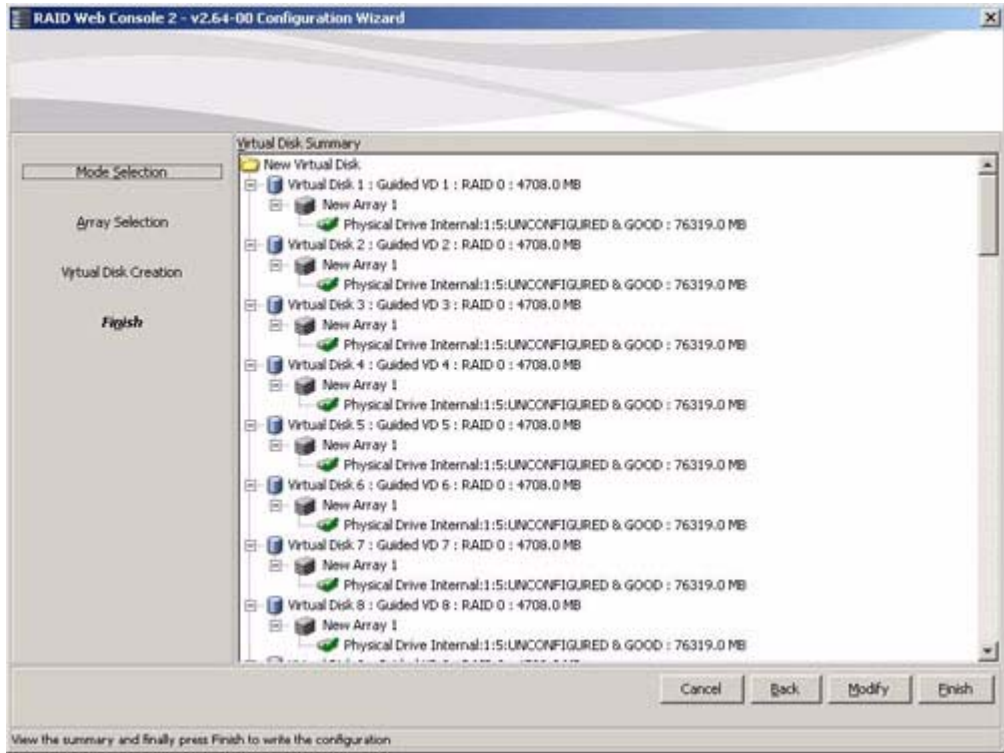

Figure 51. Final Guided Configuration Screen
6. Click **Next** to continue to the next screen, as shown in Figure 51.